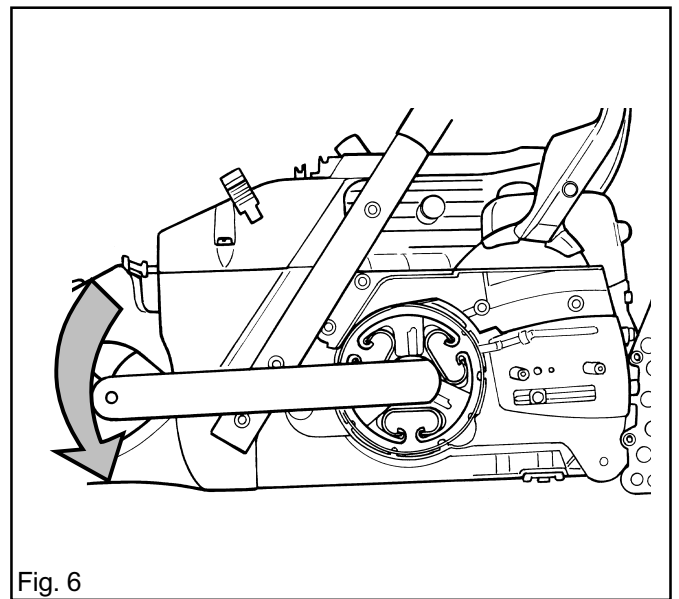

Fig. 6
2. Screw the clutch hub onto the crankshaft and tighten with the clutch tool. Note - left-hand thread. See fig. 6.
4. The oil pump drive worm gear is undamaged. See fig. 6.